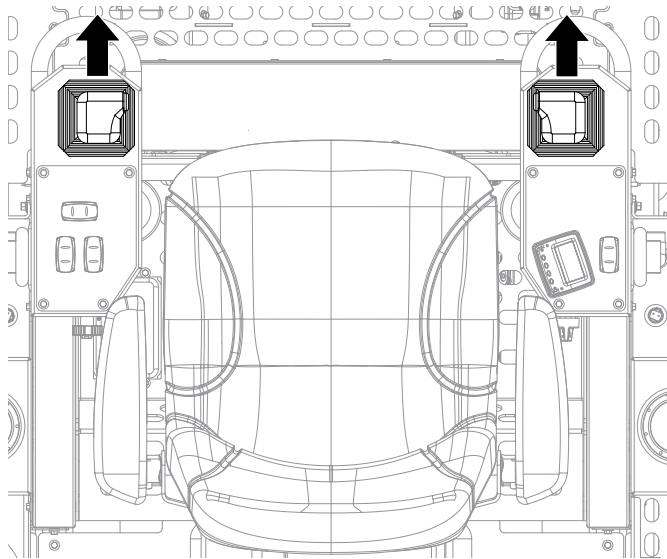

Figure 24. Joysticks (Forward)
1. Push both the left and right joysticks **forward** (Figure 24).